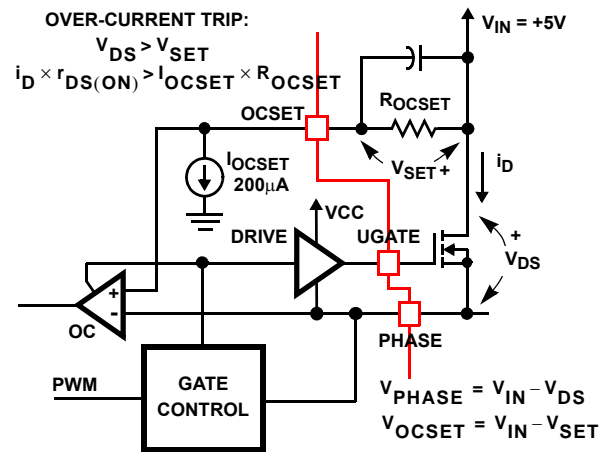

FIGURE 9. OVER-CURRENT DETECTION
An external resistor (R_{OCSET}) programs the over-current trip level for the PWM converter. As shown in Figure 9, the internal 200 μ A current sink (I_{OCSET}) develops a voltage across R_{OCSET} (V_{SET}) that is referenced to V_{IN} . The DRIVE signal enables the over-current comparator (OC). When the voltage across the upper MOSFET ($V_{DS(ON)}$) exceeds V_{SET} , the over-current comparator trips to set the over-current latch. Both V_{SET} and V_{DS} are referenced to V_{IN} and a small capacitor